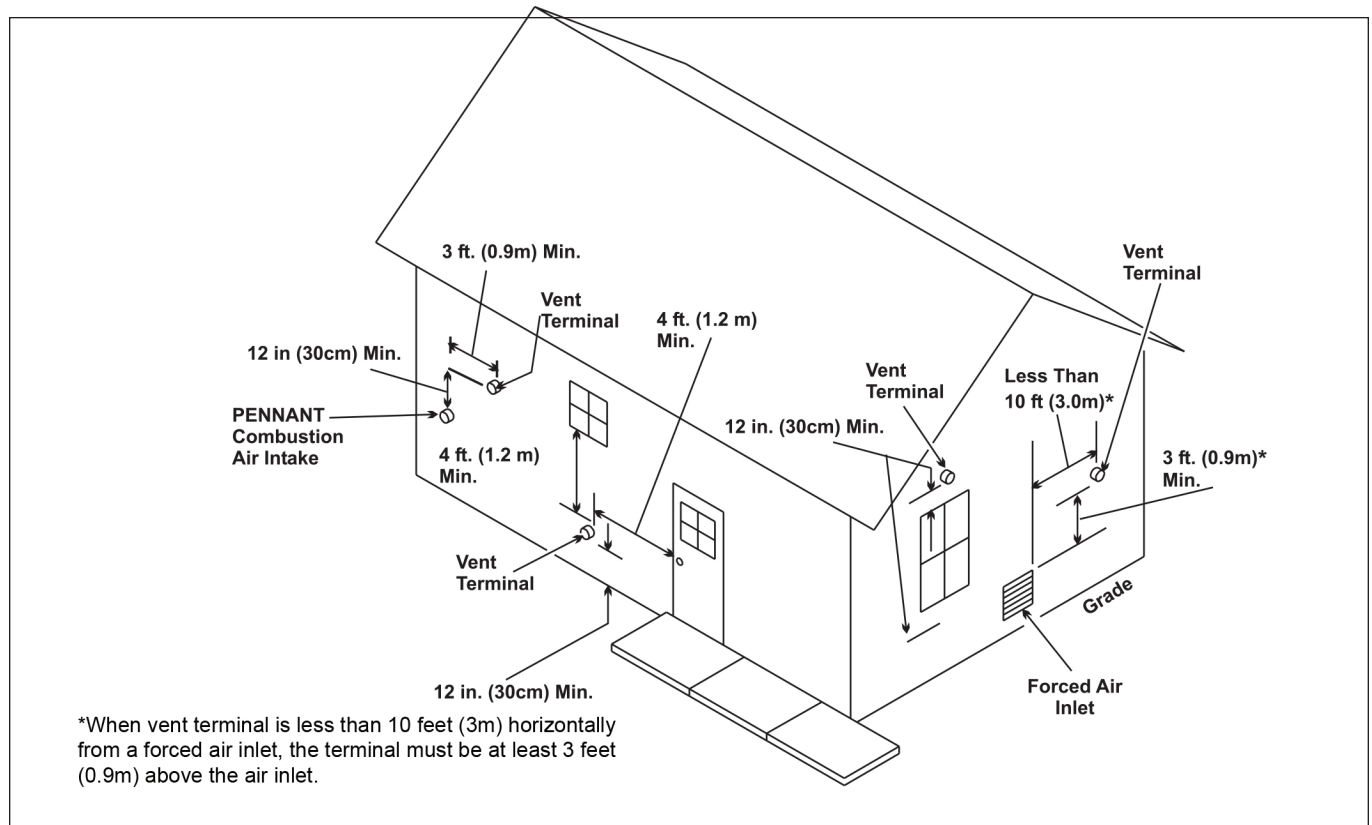

Figure 3. Combustion Air and Vent Through Side Wall.
be in accordance with CAN/CGA B149.1 or .2 and local applicable codes (see Figure 3). Consider the following when installing the terminal:
4. If the PowerMax PM is side-wall vented to the same wall, locate the vent terminal at least 3 feet (0.9m) horizontally from the combustion air terminal, and locate the vent terminal at least 1 foot (0.3m) above the combustion air terminal (see Figure 3).